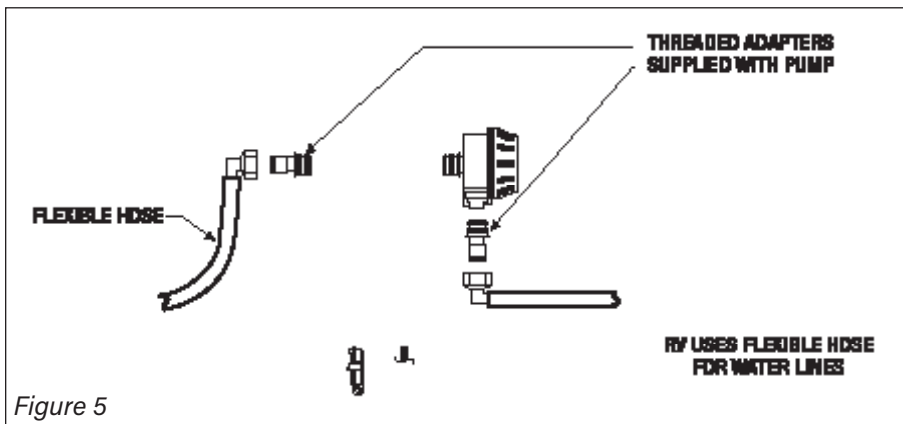
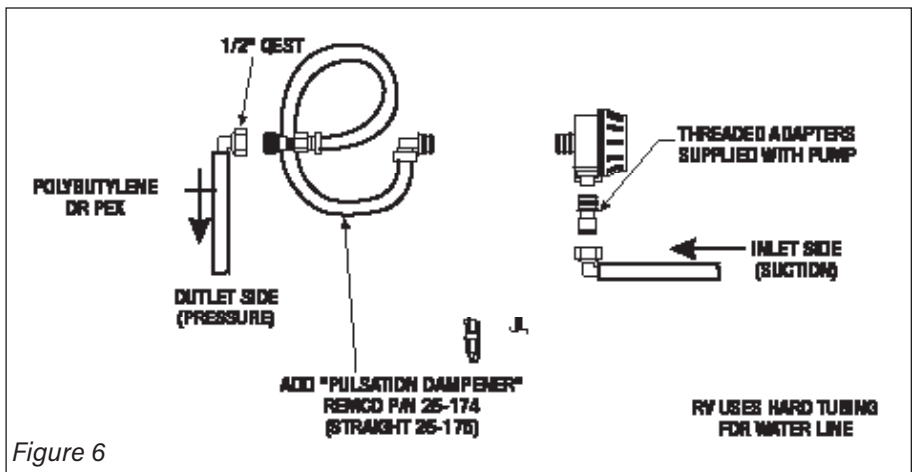
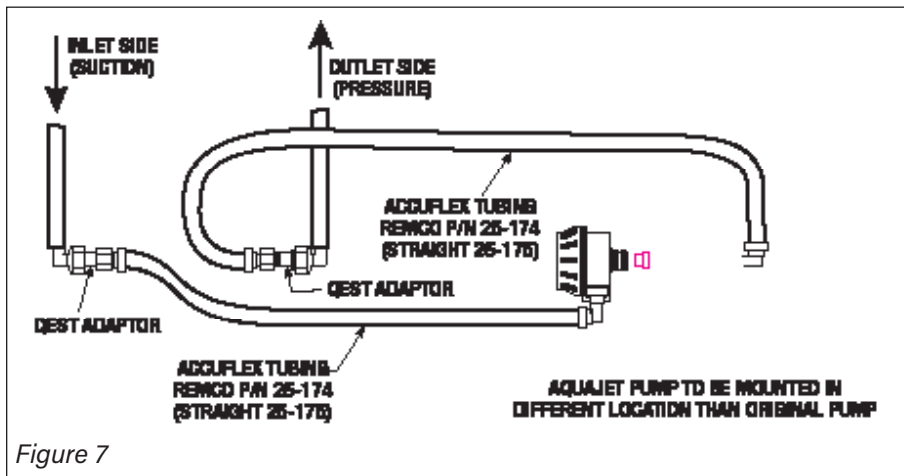

Figure 5
Figure 6
Figure 7
4. Survey the existing plumbing and identify the suction line (i.e. the line going from the water holding tank to the pump). For the quietest possible operation of the Aquajet pump, you should try to isolate the pump mechanically from your RV's typically hard Polybutylene or PEX tubing. If your RV is currently plumbed with soft-walled, reinforced hose (see Figure 5, page 5), then your system should be perfectly sufficient as is. By installing a piece of IAPMO approved cold water hose (such as 'Accuflex' Series 136) between the pump outlet port and your RV's hard plumbing, you will achieve the quietest possible pump operation. Remco also offers, as an optional accessory, a 39" long pre-assembled hose with fittings (Remco product number 25-174) that will adapt directly to the Aquajet RV and your existing plumbing. Please refer to Figure 6, page 5 & Figure 7, page 6.
5. At the end of your survey you should have determined how to wire the Aquajet pump. Your alternatives are illustrated in Figure 1, page 4 ("no change," also applicable for single switch systems), Figures 2, 3, 4 or 8, pages 4-6. You should also have determined how to plumb the pump. Your options are Figures 5, 6 or 7, pages 5-6. Always make sure you have all hardware needed before you start the actual installation.
3. Survey the existing plumbing and identify the suction line (i.e. the line going from the water holding tank to the pump). For the quietest possible operation of the Aquajet pump, you should try to isolate the pump mechanically from your RV's typically hard Polybutylene or PEX tubing. If your RV is currently plumbed with soft-walled, reinforced hose (see Figure 5, page 5), then your system should be perfectly sufficient as is. By installing a piece of IAPMO approved cold water hose (such as 'Accuflex' Series 136) between the pump outlet port and your RV's hard plumbing, you will achieve the quietest possible pump operation. Remco also offers, as an optional accessory, a 39" long pre-assembled hose with fittings.
(Remco product number 25-174) that will adapt directly to the Aquajet pump and your existing plumbing. Please refer to Figures 6 and 7, page 5-6.
- a. [For old pump outlets connected to hose, as in Figure 5, page 5] Insert O-ringed end of (Qest) threaded adapter into outlet port (marked with arrow pointing away from pump) of the Aquajet pump. Lock fitting in place by pushing down retainer slide.
- b. For old pump outlets directly connected to hard tubing, as in Figure 6, page 5]. Insert the O-ringed elbow fitting of the Accuflex hose adapter (sold separately) into the outlet port of the Aquajet pump. Lock fitting in place by pushing down retainer.
- a. [If the Aquajet pump is to be directly plumbed to the existing inlet filter/fitting, as in Figures 5 and 6, page 5]. Insert the O-ringed end of threaded adapter into the pump's inlet port (look for arrow pointing towards the center of the pumphed). Lock fitting in place by pushing down retainer slide.
- b. [If the Aquajet pump is to be remote mounted, as in Figure 7, page 6]. Insert the O-ringed elbow fitting of the Accuflex hose adapter (sold separately) into the inlet port of the Aquajet pump. Lock fitting in by pushing down retainer slide.
12. If an Accuflex hose adapter is used on the outlet side (see Figures 6 and 7, pages 5-6), place the other end of the hose adapter up high. This should stop water from being siphoned out.
- a. [If you are plumbing per Figure 5, page 5] Place a bucket under your plumbing system's pressure hose, have an assistant open two inside faucets and drain water from the pressure line. Connect the pressure hose fitting to the Qest adapter on the pump outlet side.
- b. [If you are plumbing per Figures 6 or 7, pages 5-6] Place the open end of the Accuflex tubing from the Aquajet outlet port into the bucket.
20. Water should be flowing into the bucket (see Figures 6 and 7, pages 5-6) or into the sinks (see Figure 5, page 5).